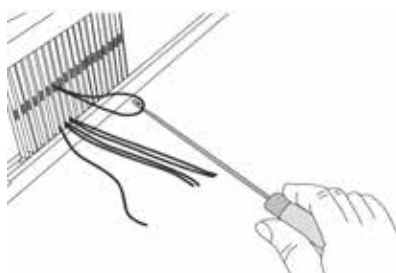

FIGURE 9: THREAD THE HOLES IN THE HEDDLE
12. You have two warp ends in each slot. You need to take one end out of each slot and thread it through the adjacent hole using your threading hook (figure 9). Work from one edge of the weaving to the other until all holes have been threaded.